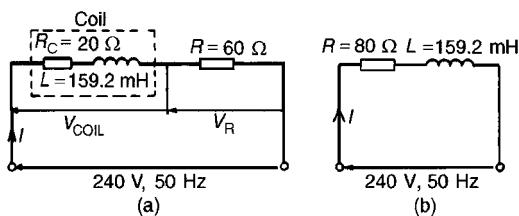

Figure 15.8
The circuit diagram is shown in Fig. 15.8(a). When impedance's are connected in series the individual resistance's may be added to give the total circuit resistance. The equivalent circuit is thus shown in Fig. 15.8(b).
- From Fig. 15.8(a):